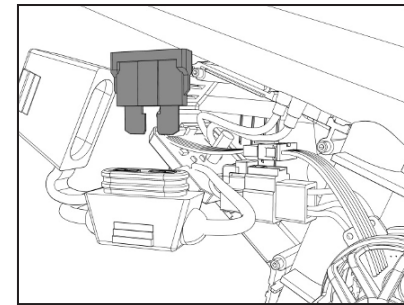

FIGURE 10
3. Remove the damaged fuse and replace with a new one. Replace the cover on the inline fuse holder and ensure the power cable is routed neatly. [Figure 10]